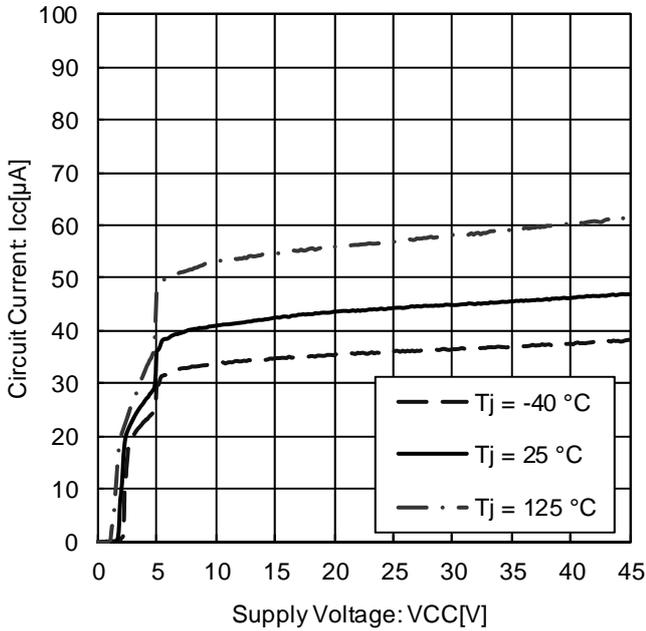

Figure 23. Circuit Current vs. Power Supply Voltage
*magnified Figure 23. at low supply voltage